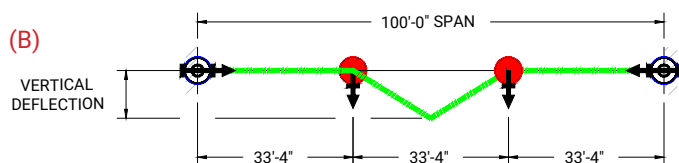

Figure 19 - Lifeline deflection (B).
2. Potential lifeline deflection (B) see Figure 19
3. Determine the available free fall and fall arrest clearances and clearance (C)